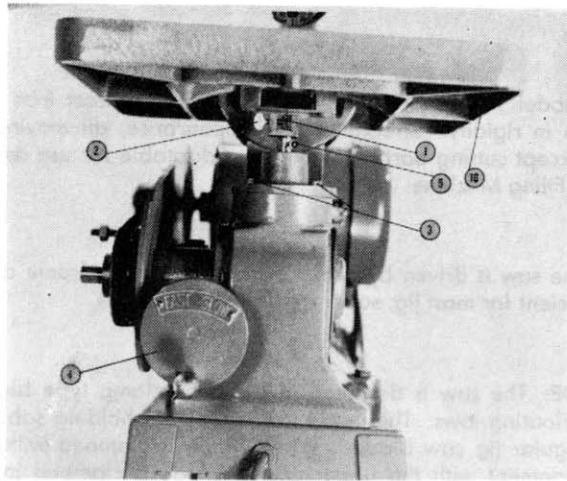
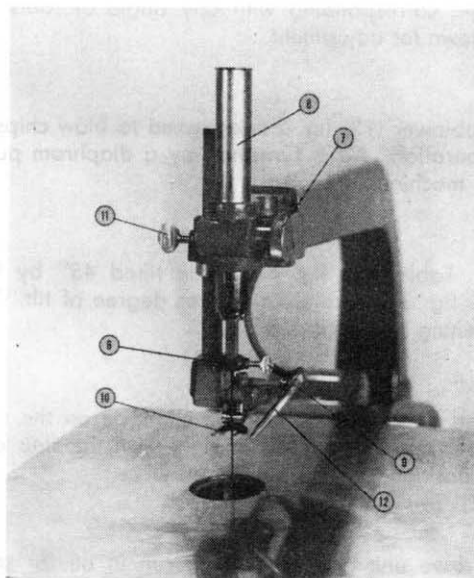

FIGURE 1
FIGURE 2
INSTALLING BLADE: The saw is designed to use a 5" clamp type blade. Blade chuck (1) fig. 1 has two floating jaws. The inside jaw is used for holding saber blades and the outside jaw for regular jig saw blades. When blade is clamped with screw (2) fig. 1, it should be in alignment with the upper chuck. Blade is clamped in upper chuck (6) fig. 2 with screw (9) fig. 2. Blade tension is set by loosening lock bolt (7) fig. 2 and raising or lowering blade tensioning tube. When upper or lower blade chuck wears to the point they will not hold blades . . . replace immediately with new chuck assemblies.
HOLD-DOWN: The spring hold-down (10) fig. 2 should be set tight enough to hold work securely against table to prevent vibration. Spring hold-down is set by loosening wing screw (11) fig. 2 and adjusting hold-down to proper height. This hold-down may be tilted to left or right, corresponding with any angle of table tilt. Loosen tilt lock screw on back of hold-down for adjustment.
CHIPBLOWER: The chipblower (12) fig. 2 is designed to blow chips and dust from work area when saw is in operation. Air is furnished by a diaphragm pump operated by the crank-shaft in base of machine.
TABLE ADJUSTMENTS: Table (16) fig. 1 can be tilted 45° by loosening handwheel (12) fig. 3. Pointer (14) fig. 3 accurately measures degree of tilt. Table may be turned or swiveled 45° by loosening screws (3) fig. 1.
SPEED CHANGE: Speed of saw blade may be changed on the variable speed model by turning handwheel (4) fig. 1 to the left or right. On the step pulley model, remove guard and change belt position for cone pulleys.